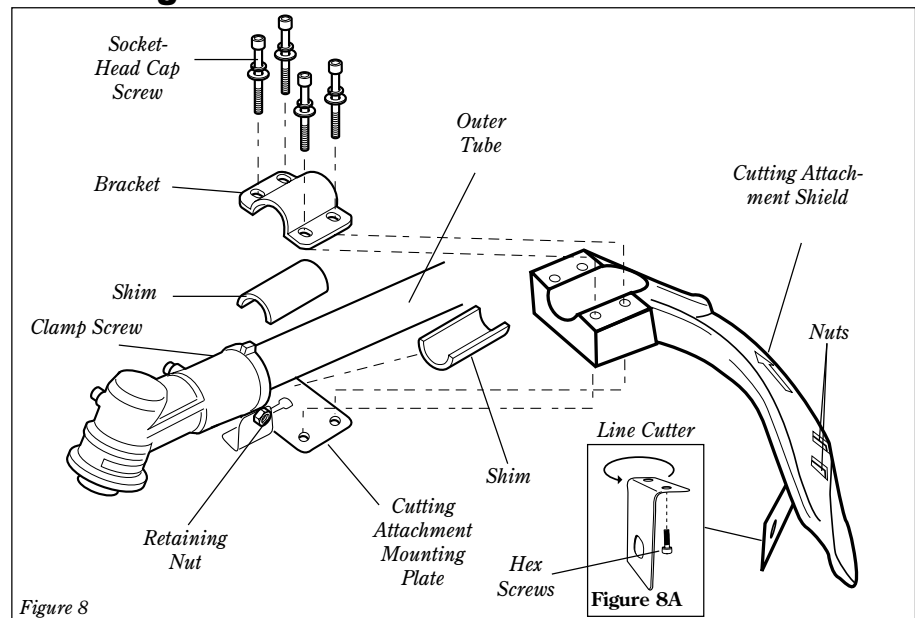

Figure 8
1. Insert the cutting attachment shield between the outer tube and the cutting attachment mounting plate. See Figure 8.
2. Fit the two shims and the bracket over the outer tube and loosely install the four socket-head screws. See Figure 8.